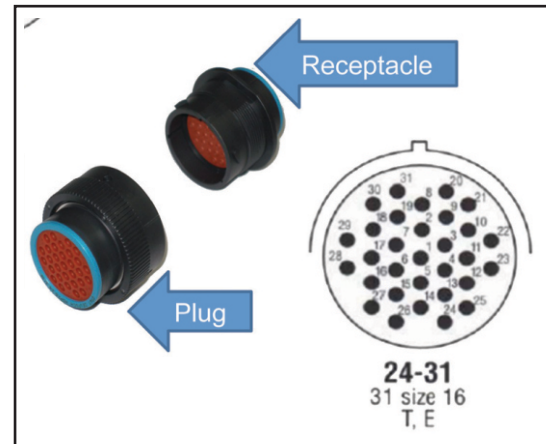

Figure 1: 31-contact Connector
- 31-contact connector - **Tables 2 & 4, Figs. 1 & 2.**